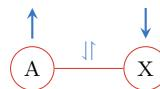

Figure 9.5: Scalar coupling in a diatomic molecule.
- Notice how each nucleus in Figure 9.5 is aligned antiparallel to the nearest electron.